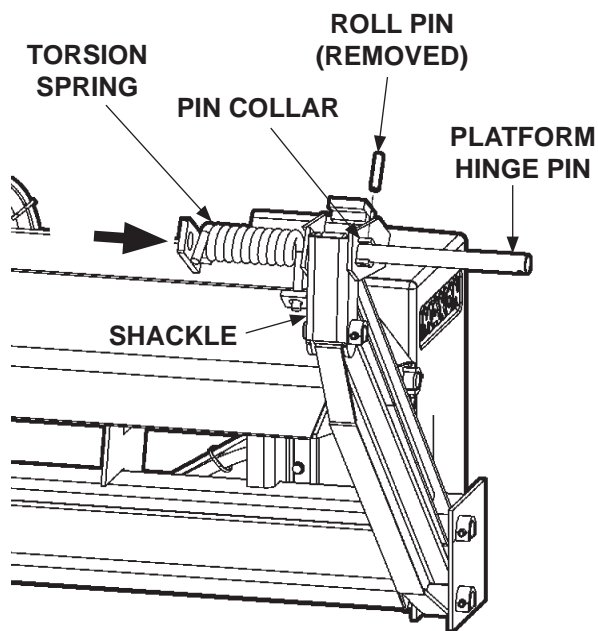

FIG. 20-1
3. Drive out the roll pin from pin collar on the platform hinge bracket. Drive the platform hinge pin outboard from the shackle just enough to free the torsion spring (**FIG. 20-1**). Remove spring from shackle.